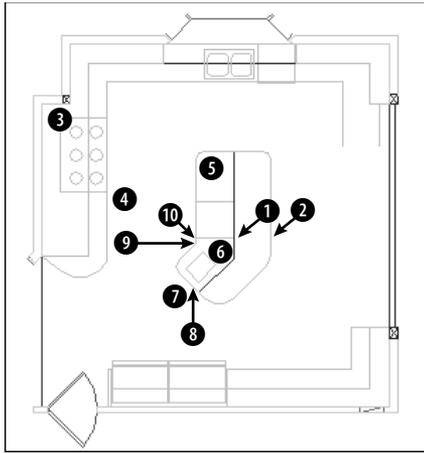

Figure 9-19: A kitchen floor plan.
1. Open `ab09-e.dwg` from the CD-ROM, as shown in Figure 9-19.
3. Draw a line from ❶ to ❷ in Figure 9-19. You will use this later to illustrate the `Last` selection option.
5. To select the six-burner stovetop, pick a point near ❸, being careful that the pickbox at the intersection of the crosshairs doesn't touch any object. Transparently zoom in and back out if necessary. Then move the mouse to ❹ and pick again. The objects chosen appear dashed to indicate that they have been selected.